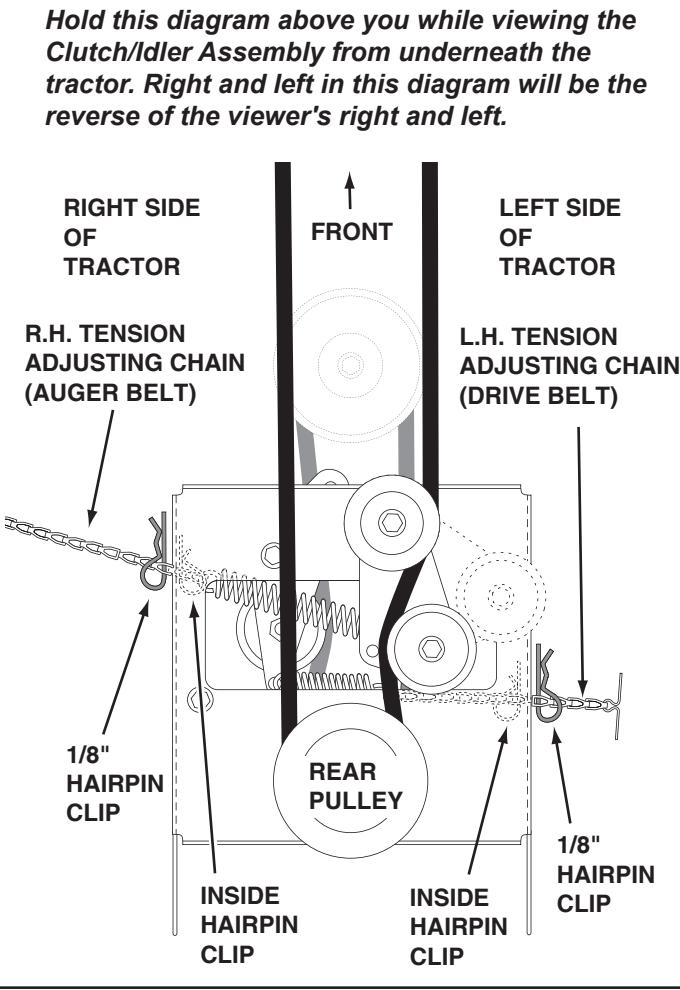

FIGURE 23
- Place the **auger** belt around the bottom rear pulley on the clutch/idler assembly and between the two pulleys on the lower idler arm. Keep the flat idler pulley to the outside of the belt. See figure 23.
- Pull the flat idler pulley against the **auger** belt using the R.H. tension adjusting chain. For correct belt tension, pull the chain as far as the inside hairpin clip will allow and then reinstall the **outside 1/8"** hairpin clip into the chain. See figure 23.
- Pull the upper flat idler pulley against the **drive** belt using the L.H. tension adjusting chain. For correct belt tension, pull the chain as far as the inside hairpin clip will allow and then reinstall the **outside 1/8"** hairpin clip into the chain. See figure 23.